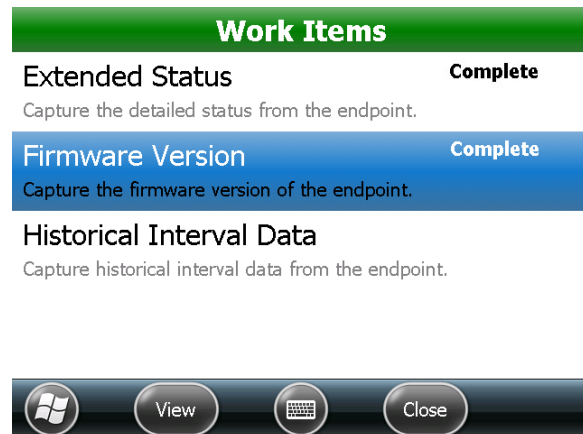

Figure 44: Complete
*"Complete" displays when data collection is finished and the **View** button becomes active. See Figure 44.*